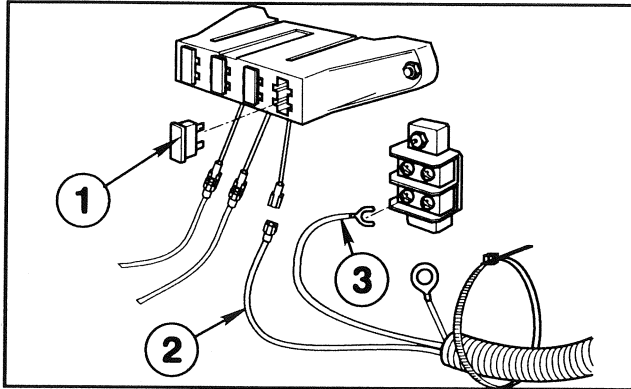

FIG. 10
9. Route Harness to Fuse Block under Operator Seat. Connect power and ground wires as shown in FIG. 10